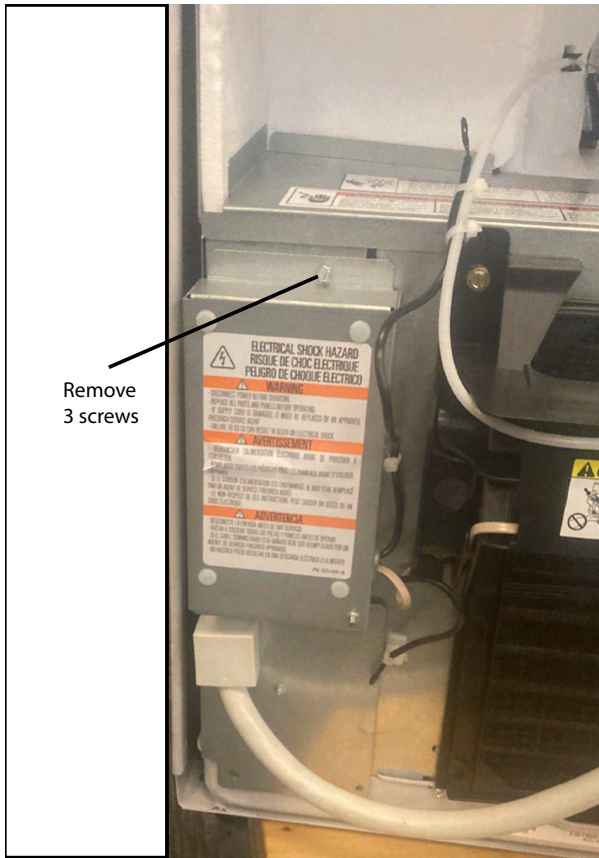

Figure 712
4. If necessary, cut wire ties and remove one(1) screw from electronic holder to create slack in wiring. Refer to figure 712.